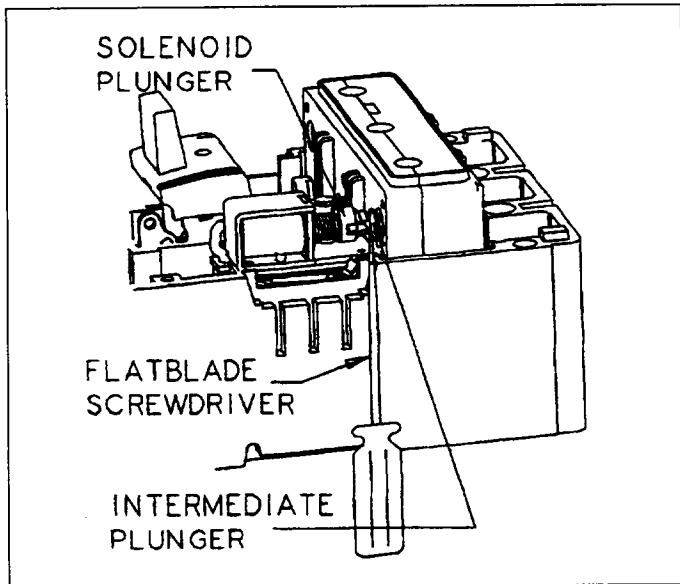

Fig. 2-6. *Screwdriver Depressing Undervoltage Release Mechanism Solenoid Plunger*
- b. Mechanical check. Using a small flat-blade screwdriver (Fig. 2-6), push in and hold solenoid plunger. Switch circuit breaker to ON. Release solenoid plunger and check that circuit breaker trips.